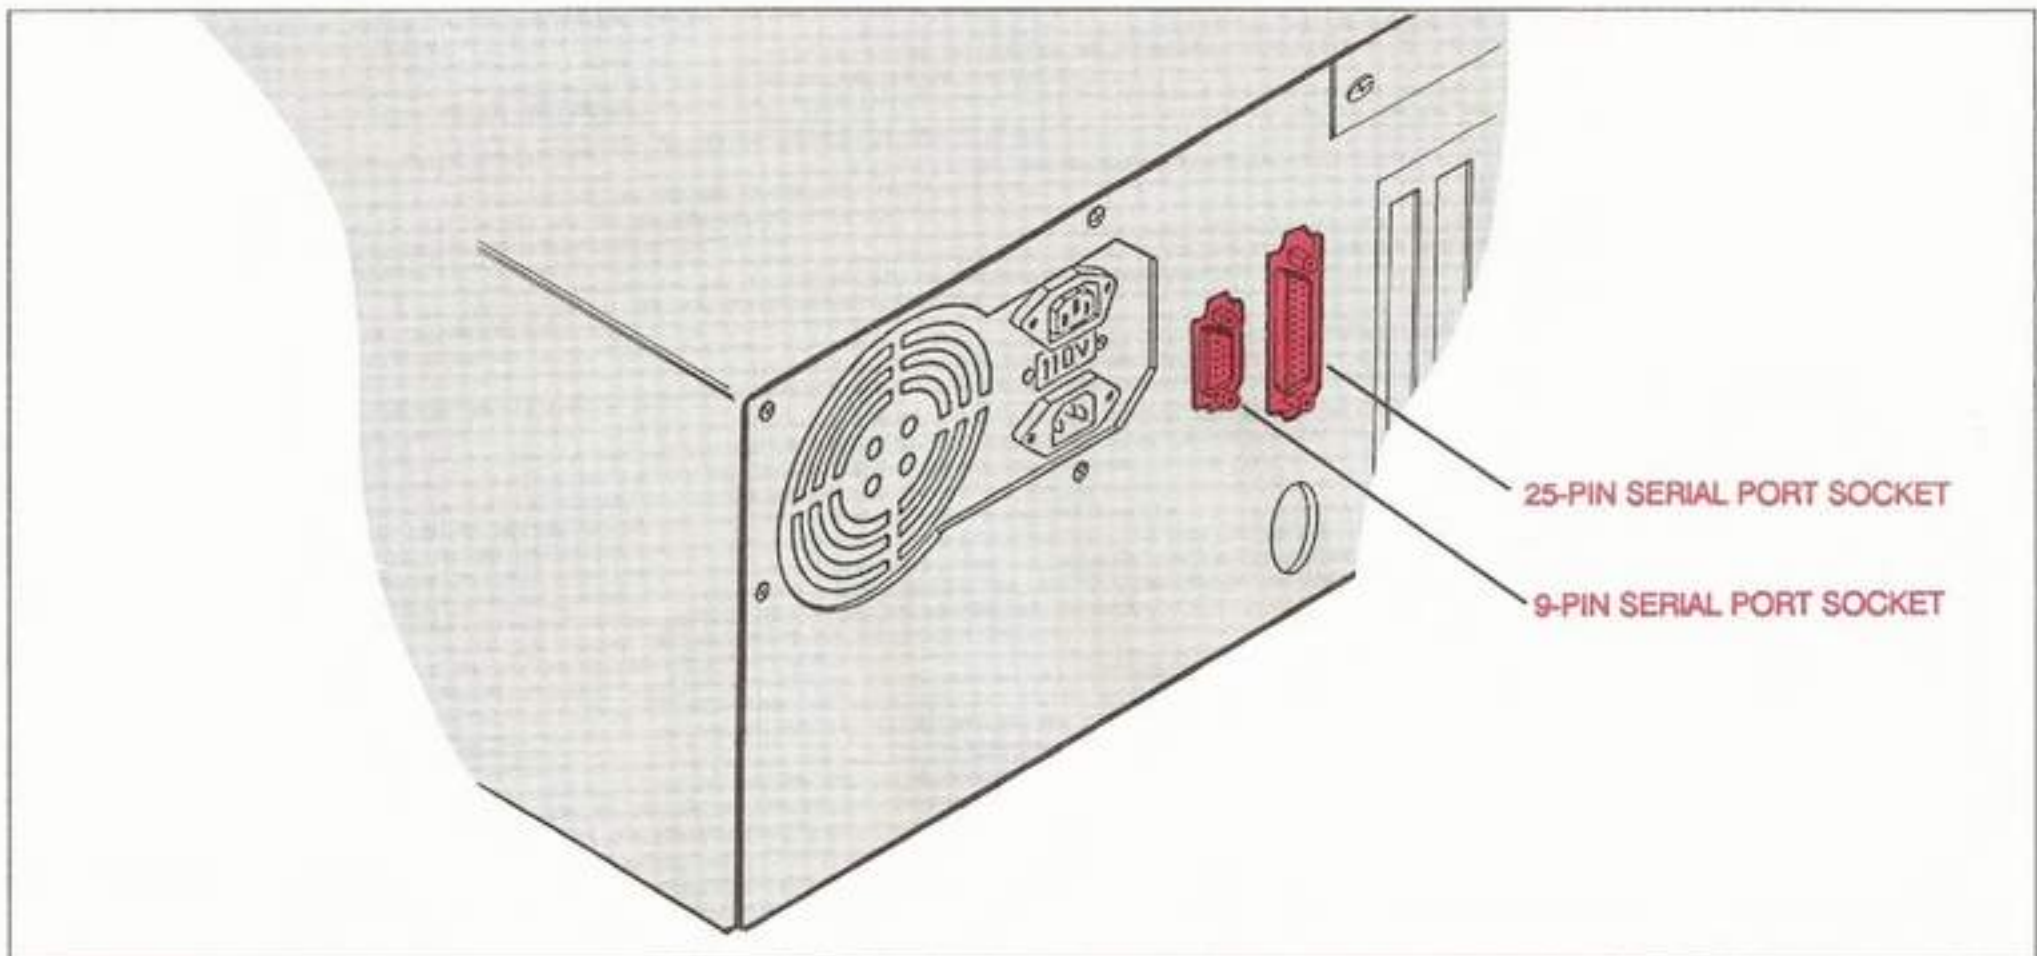

Fig. 8: The Serial Port Mouse Connection
- ___ j. Referring to Fig. 8, locate the Serial Port Mouse Connection on the Input/Output (I/O) adapter card installed in the computer.
Note: You will have to look through the slots on the computer's back panel to find it. On most IBM-compatible computers, it is a female 9-pin D-Shell connector socket, but on some models it is a female 25-pin D-Shell connector socket which is mounted in an adjacent opening in the computer's back panel. Both types are shown in Figs. 8 and 9.